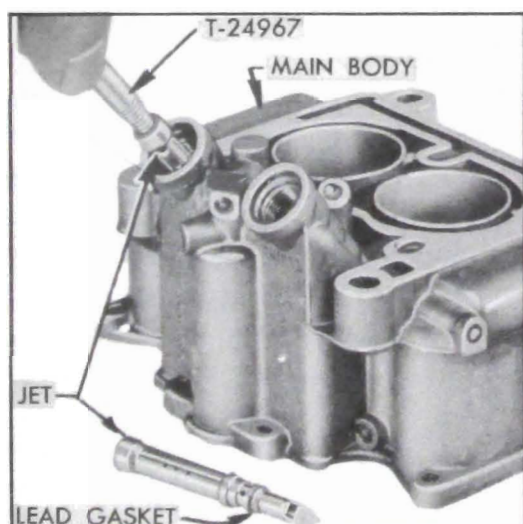

Figure 3-70—Removing Main Discharge Jet
14. Remove main discharge jets by screwing Jet Remover T-24967 (R.H. thread) into base of jet, then pulling jets from main body. See figure 3-70. The threads formed in the main discharge jet by the tool will not affect the metering characteristics of the jet. **NOTE: Make sure that main discharge jet lead gaskets are removed from main body.**